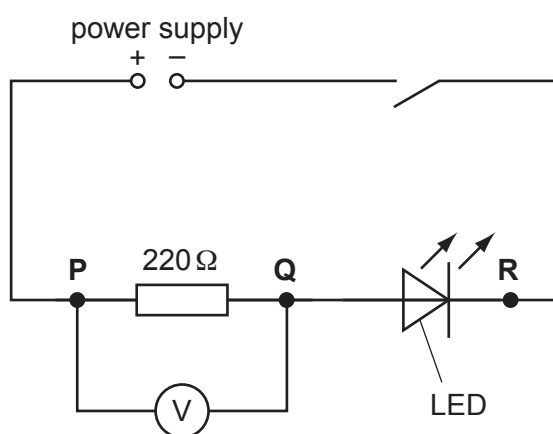

Fig. 2.1
- (vi) Sufficient connecting leads to set up the circuit shown in Fig. 2.1. See Note 5.
- 4 The resistors should be labelled $220\ \Omega$ and $330\ \Omega$. The $330\ \Omega$ resistor must be placed by the side of the circuit shown in Fig. 2.1. The RS component codes of suitable resistors are:
- 5 The supervisor must set up the circuit as shown in Fig. 2.1. When the switch is closed, the LED should light if it is connected the right way around. Terminals P, Q and R must be labelled.
The circuit must be restored to its original state as shown in Fig. 2.1, with the switch open.